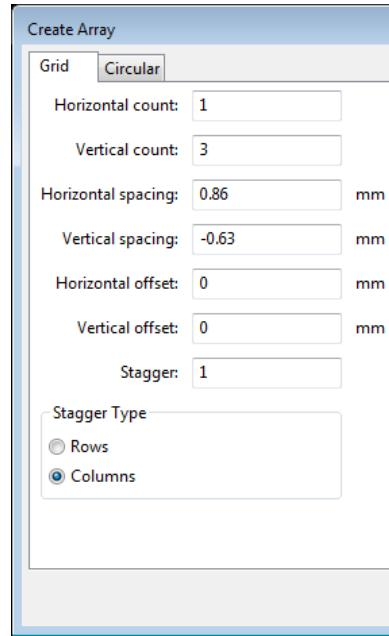

Figure 41: Array setting for pad type 1.
- a) Right click on the pad created above, select “Create Pad Array” (shortcut “ctrl+N”). Set up the “Create Array” dialog box according to Fig. 41. Leave the numbering settings to their default values.